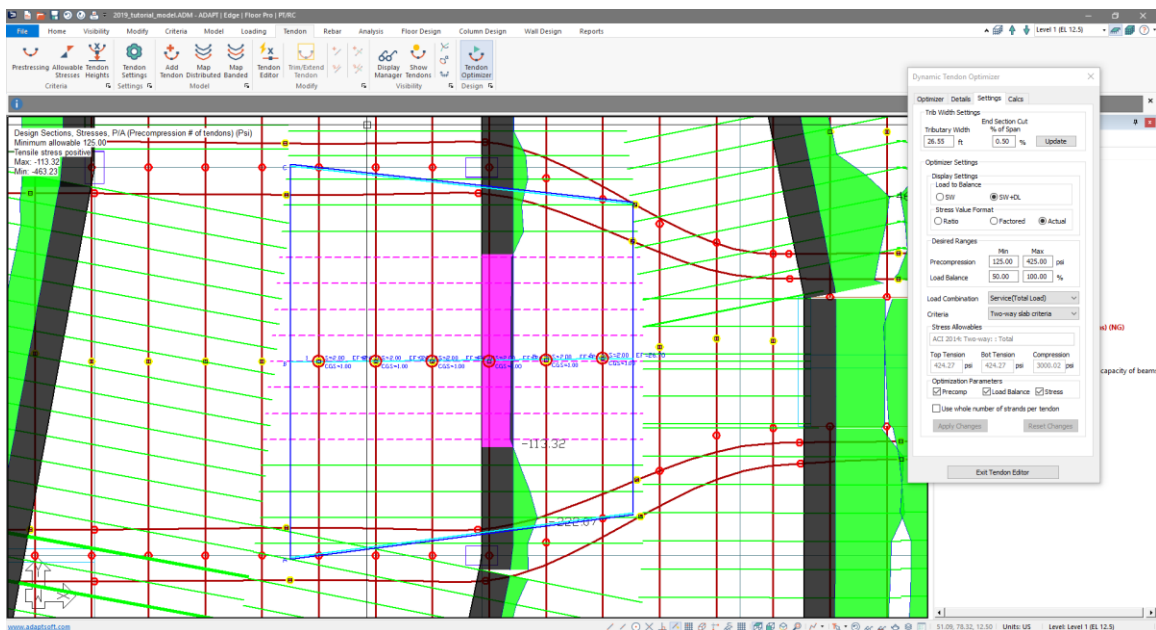

Figure 9-100
- Click the *Update* button in the *Trib Width Settings* section of the *Settings* tab. You will see the cyan design cuts adjust closer to the location of where our support line cuts are, as shown in **FIGURE 9-100**.